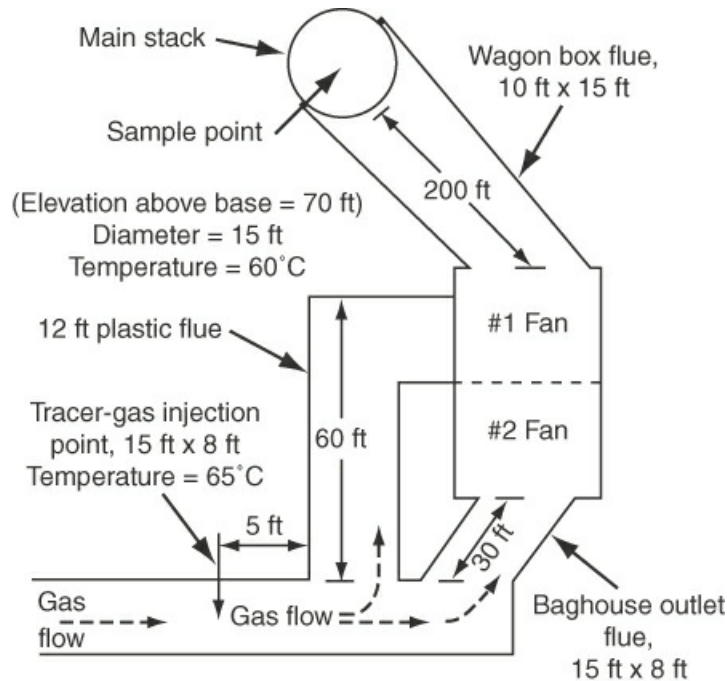

Figure P6.1.40
- **6.1.40** Measurement of flue gas flow rates is difficult by traditional techniques for various reasons. Tracer gas flow measurements using sulfur hexafluoride (SF₆) have proved to be more accurate. Figure P6.1.40 shows the stack arrangement and the injection and sampling points for the SF₆. Here are the data for one experiment: